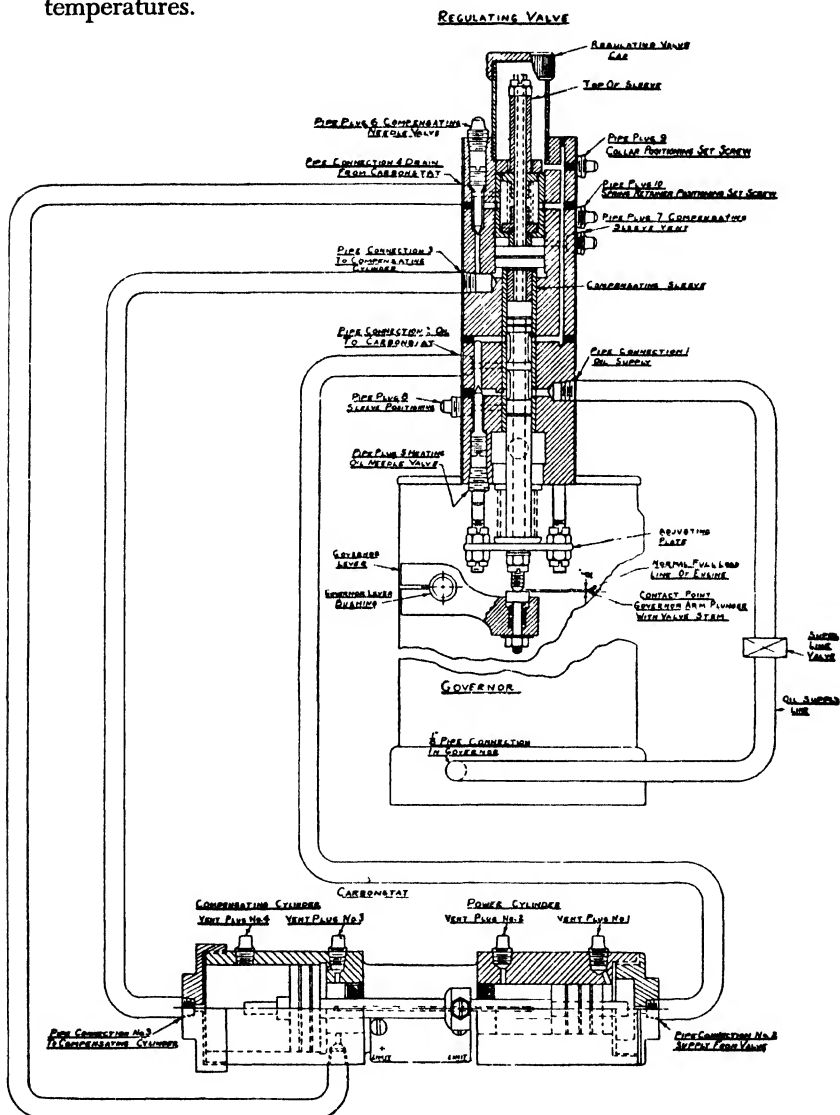

Fig. 36. Carbonstat and Regulating Valve
1. Pipe carbonstat and valve as shown in Fig. 36.